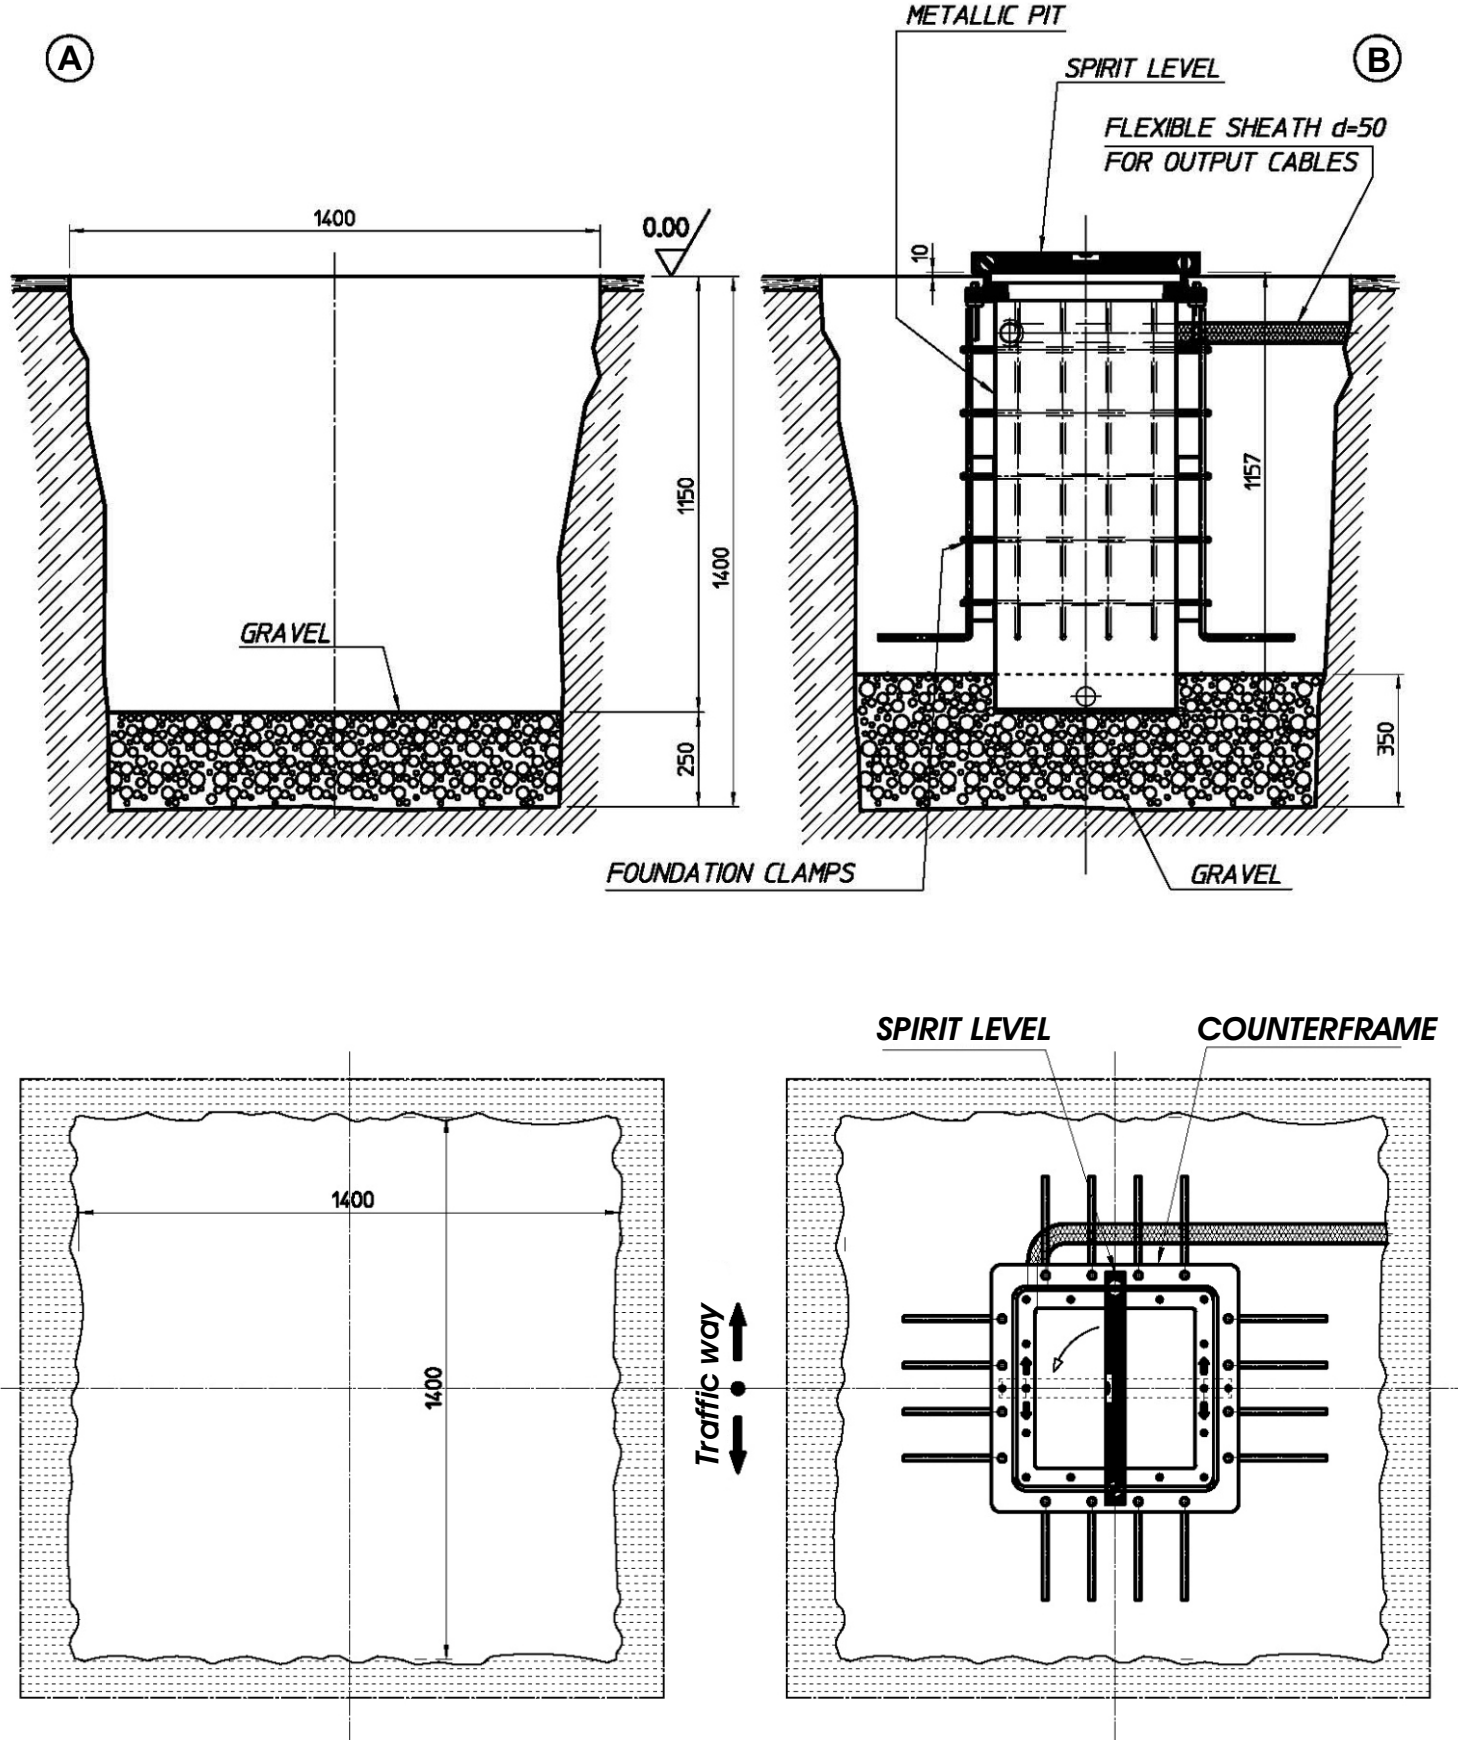

Fig.1
- 6) Lay the metallic pit into the excavation and check the correct placement of the arrows indicating the direction of movement placed inside the subframe (see Fig.1 section b), making sure it is level (plumb), considering that the upper level of the subframe must be about 10mm higher with respect to the tread surface (to limit the entry of rainwater in the pit). In case of laying more SEA bollards in line and therefore realizing the excavation with trench, it is recommended to tie all pits together using linear brackets (5 on each side) Ø 16mm, laid parallel to the trench and fixed to the square brackets of the pits through the classic metal wire. **Still enter gravel for about 10 cm (indicatively leaving about 10 cm below the level of the horizontal section of the bolts) in order to prevent that the concrete case can position under the pit, blocking the drainage holes.****
- 7) With operating metal pit(s) and prior to concreting, lay for each pit a flexible hose (Ø 50mm outside) starting from the special plastic connection inside the pit to the motion control station for the connecting line of the SEA bollard (see Fig.1 section b).**